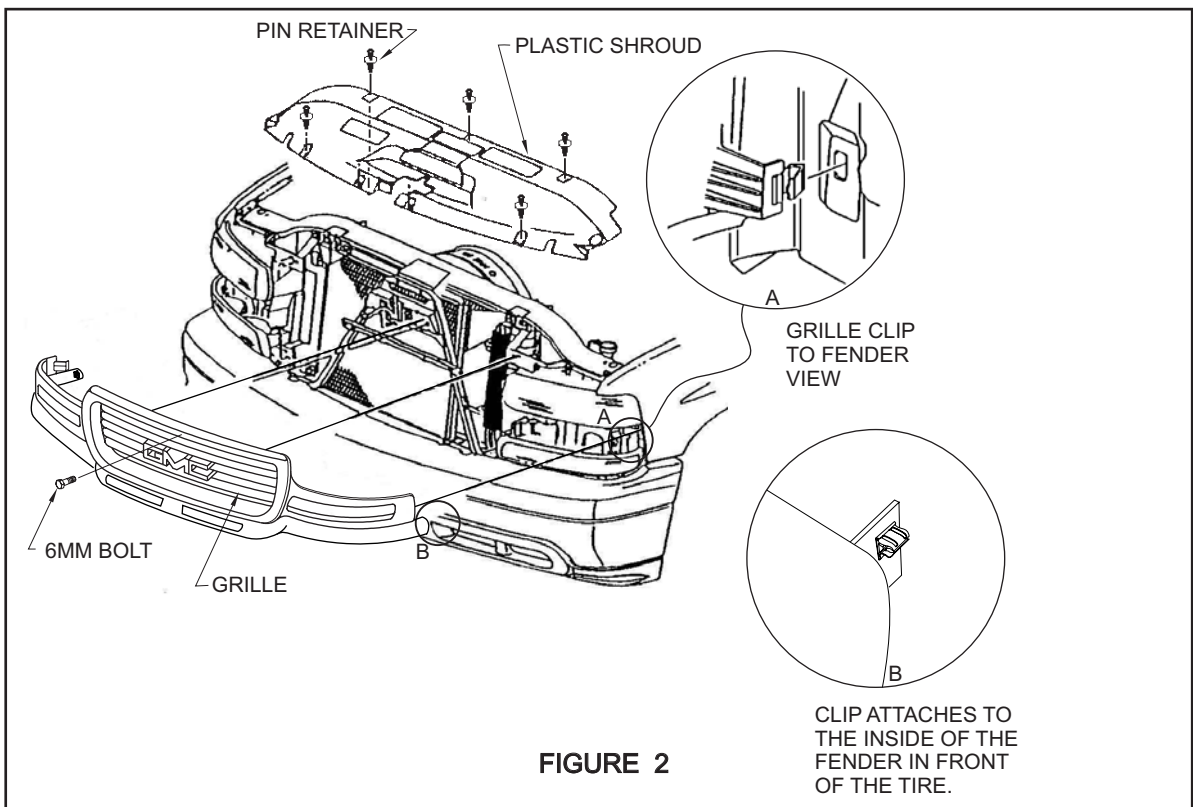

FIGURE 2
- STEP 3. Remove plastic shroud above grille by removing the seven pin retainers. Pull center pin up with small flat screwdriver. **SEE FIGURE 2.**
- STEP 4. Carefully remove grille from vehicle by removing the 6mm bolt from top of grille. Pull on outer edge of grille by applying firm pressure away from the fender. Repeat for other side and center section. **SEE FIGURE 2.**